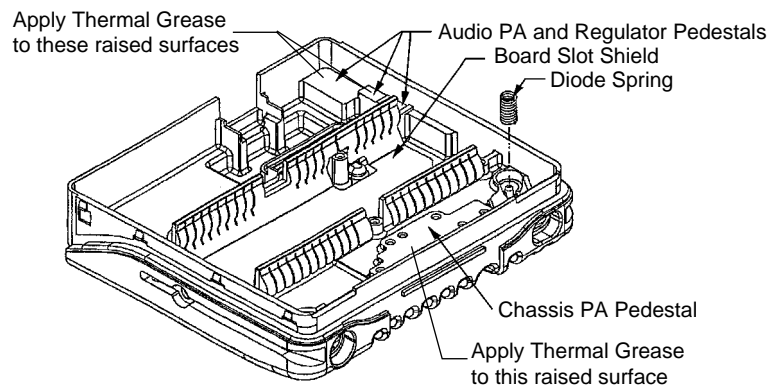

Figure 5-16. Reassembly
1. Inspect and reapply a THIN layer of thermal grease as needed to the areas shown in Figure 5-16.
5. **On Mid Power UHF Models Only:** Ensure PA Grounding Clips (P/N 4185738B01) are attached to shields near Antenna Connector, as shown in Figure 5-16. Replace if either clip is missing or poorly attached.